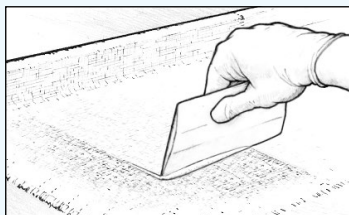

Figure 24 Squeegee away excess epoxy before it begins to gel.
6. Remove the excess epoxy with a squeegee (*Figure 24*), using long overlapping strokes of uniform pressure. The object is to remove the excess epoxy that may allow the cloth to “float off” the surface but avoid creating dry spots by exerting too much pressure on the squeegee. Excess epoxy appears as a shiny area while a properly wet out surface appears evenly transparent with a smooth cloth texture. Subsequent coats of epoxy will fill the weave of the cloth.